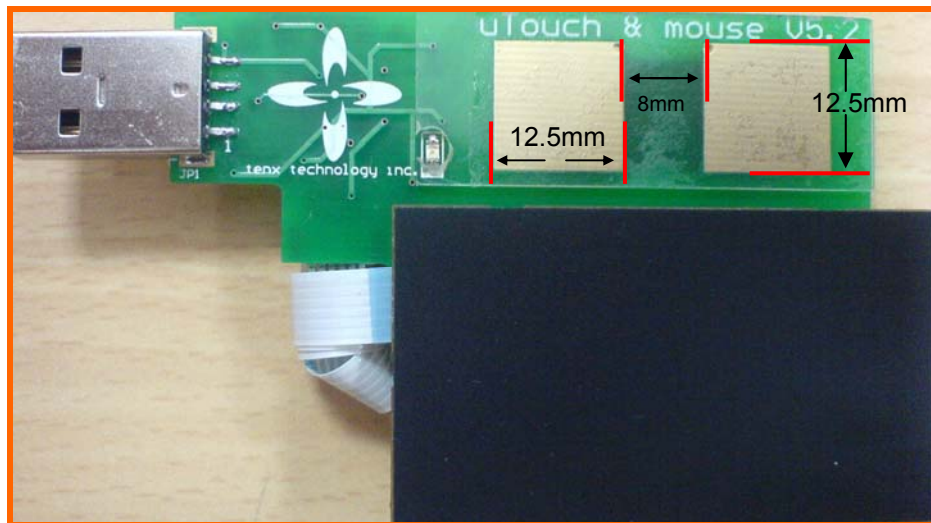
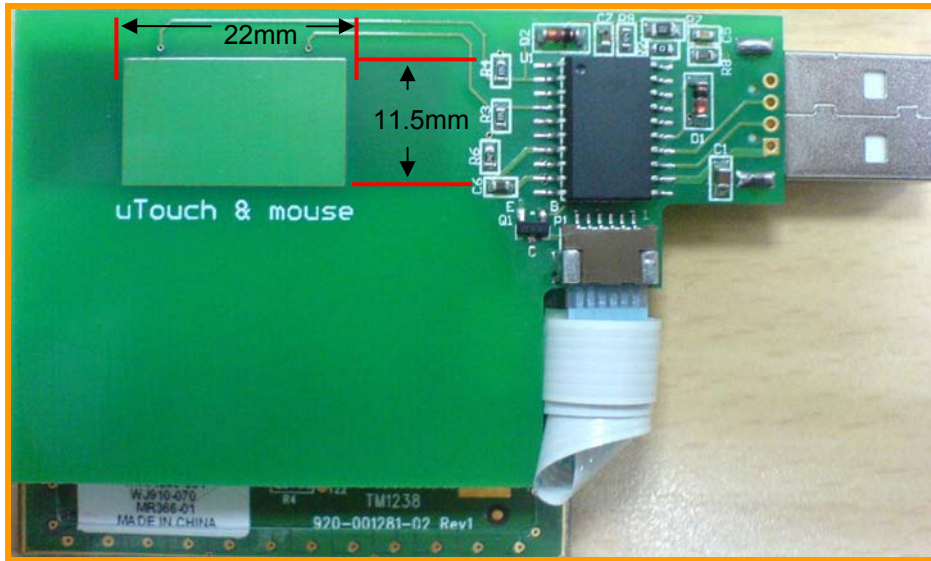

Figure 1 The front of the device
Figure 2 The back of the device
- (1). Please use the circuits proposed in the application circuit as the bases for circuit design.
- (2). Place the layout of the added passive components as close to the IC as possible.
- (3). 10-mil trace width is recommended for circuit design (excluding power traces, ground traces, and CLK traces).
- (4). Keep trace widths at least 20 mils for power traces, ground traces, and CLK traces during circuit design.
- (5). The area of PAD (touch copper foil) should be larger than 12.5mm X 12.5mm as shown in Figure 1.
- (6). The traces between PAD's (induction foil) should be placed on the central area of the PCB board as possible (but not right underneath PAD or be far away from the edge of the PCB board to avoid malfunction).
- (7). The length of TP[0] and TP[1] should be the same and the number of Via should be kept no more than 1 as possible so that the parasitic effect of TP[0] and TP[1] will be close. The conducting lines should be kept as far away as possible; at least by more than 1mm. In particular, stay away from high-frequency signal lines as well; do not run parallel to high-frequency signal lines, perpendicular at the most.
- (8). The traces connecting PAD (induction foil) should be kept on a different Layout layer from PAD. They can be connected through one Via. The component should be kept on a different layer from PAD as well.
- (9). Please refer to the circuit application selection to design VF0 and VF1 voltage. Changing the charging resistors, R3 and R4 (3.3M ohms recommended), will change the variation amount of touch buttons.
- (10). DP, DM should run parallel, equal length, and trying to not to go through vias ◦
- (11). FR4 1.6mm is recommended as the thickness of the PCB board, and PCB needs to be plated with 1/1000 mil of chemical gold.
- (12). PCB board with large area copper pour is not recommended to use with this product, it will reduce the variation amount of touch buttons.
- (13). The thickness of dielectric must be 1mm.
- (14). The dielectric should be placed right next to the top of the touch copper foil (using adhesive) as tight as possible, best without air if possible.
- (15). The spacing between two PAD's is recommended to be 8mm.
- (16). It is recommended to put a piece of 22mm X 11.5mm copper foil right underneath PAD to enhance the variation rate as shown in Figure 2.